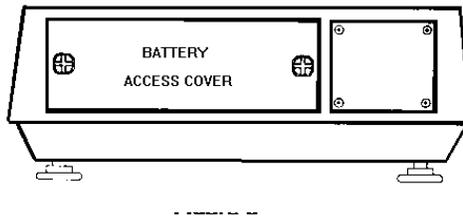

Figure 6
- 6.2.2 Rotate the scale so that the rear panel is accessible. See Figure 6.